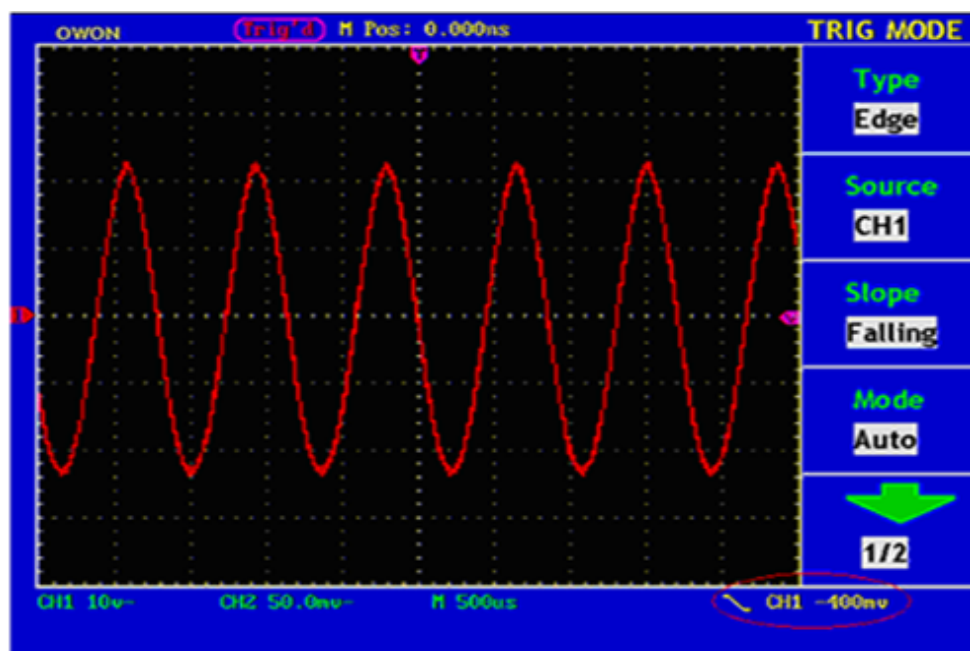

Fig.32 Wave Form Triggered on the Falling Edge
10. Press the **F3** menu selection button and choose Falling for Slope. For the screen display, see Fig.32.